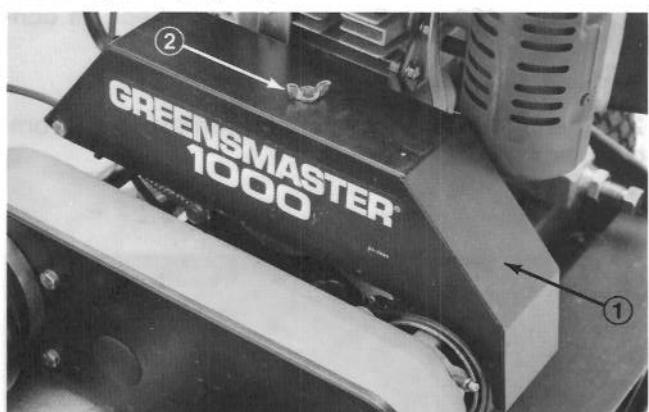

Figure 39
5. Remove wing nut securing belt cover and pivot cover open. (Fig. 39).
2. Remove wing nut securing belt cover and pivot cover open (Fig. 39).